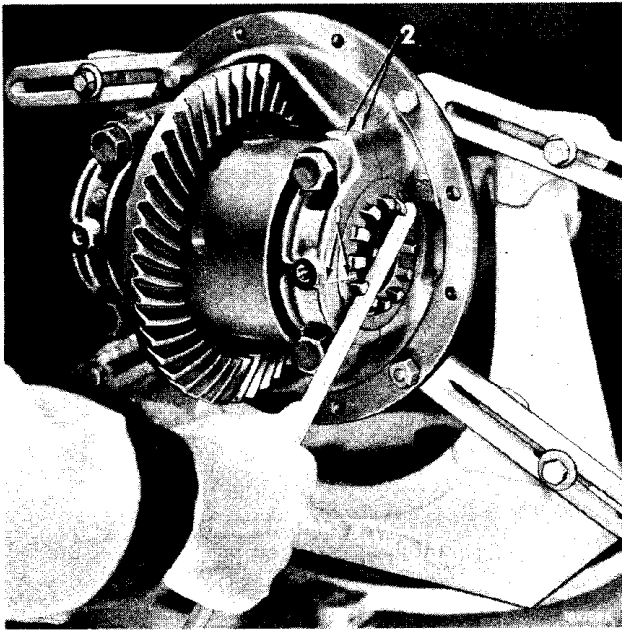

Fig. 7—Adjusting Differential Bearings
- (1) Mount carrier assembly in stand and mark both differential bearing adjusters and caps to facilitate assembly.
- (2) Loosen differential bearing cap screws. Then, loosen bearing adjusters, as shown in Figure 7, to relieve load on bearings. Remove caps and bearing adjusters.